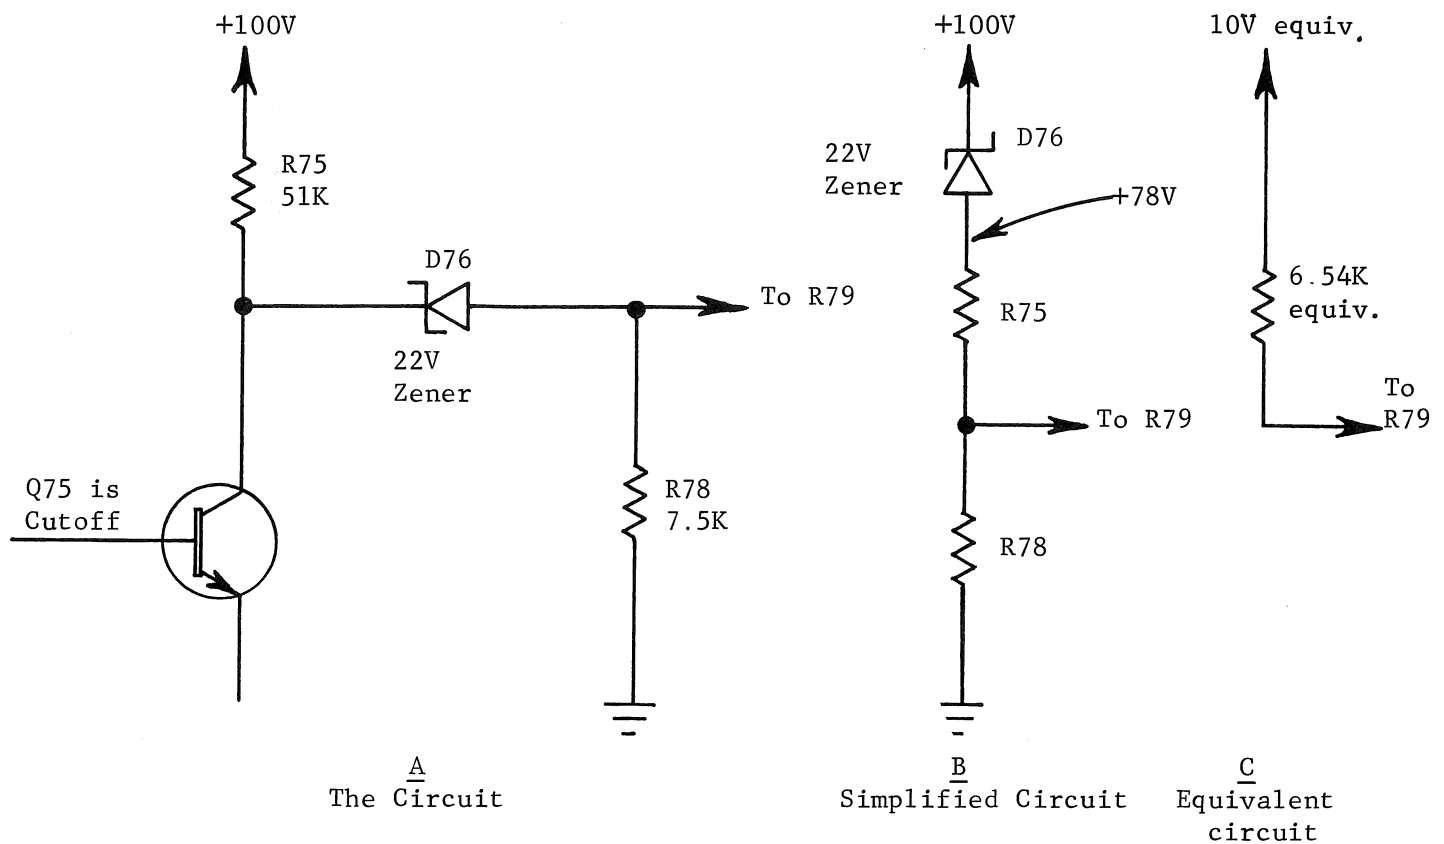

Figure 13
14. First, by Thevenins theorem, consider the equivalent open-circuit voltage and current at D76 Anode, assuming R79 disconnected. See Fig. 13